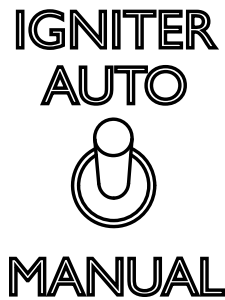

Figure 4.8
1. **Flip the Igniter Switch Down** into the “MANUAL-LIGHT” position. See Figure 4.8.